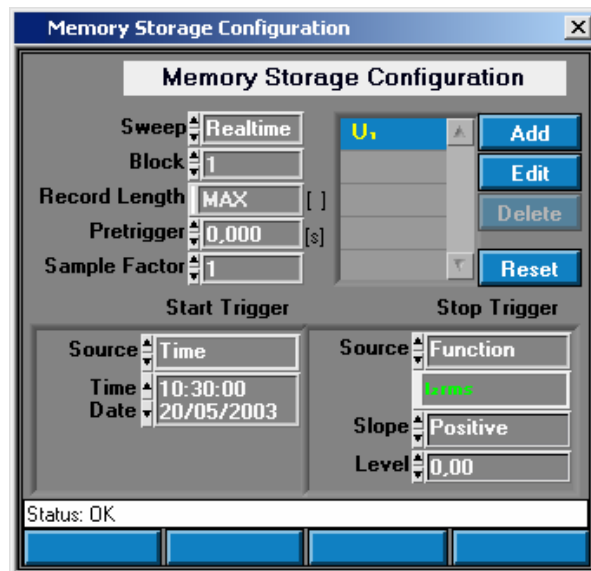

Figure 4-20. Start Trigger Source-Time
- Level - sets the start trigger function level. It isn't meant the waveform but the RMS. If the value crosses the level line, the acquisition will stop. It is visible only for source Function (Figure 4-20).